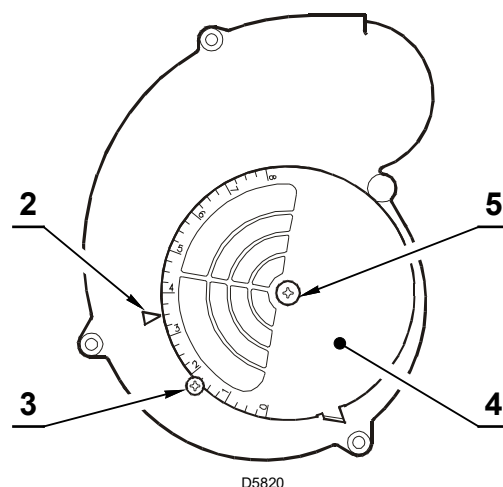

Fig. 17
- C The final position of the air adjustment plate will vary on each installation. Use instruments to establish the proper setting for maximum CO₂ and a smoke reading of zero. (Fig. 17).